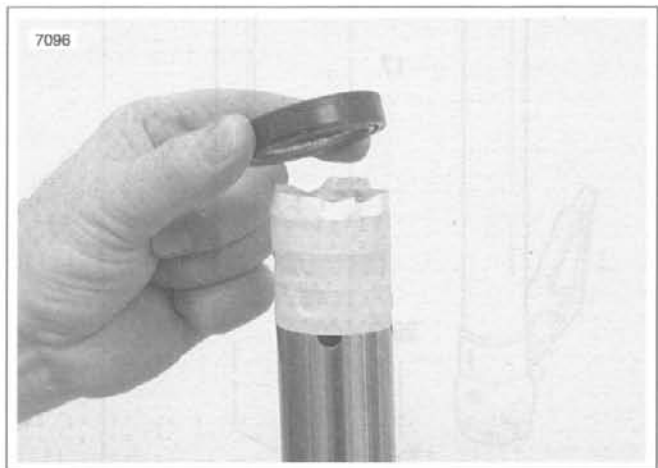

Figure 2-99. Slide Pipe Protection
1. See Figure 2-99. Wrap the end of the slide pipe and the slide bushing channel with tape to avoid damaging the oil seal lip when installing.